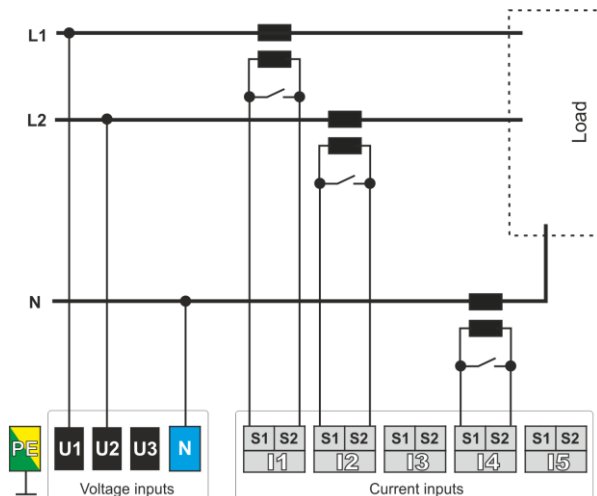

Fig. 26. Wiring diagram – split-phase, direct voltage connection.
- 2-phase (split-phase) with split-winding of the transformer (Fig. 26),